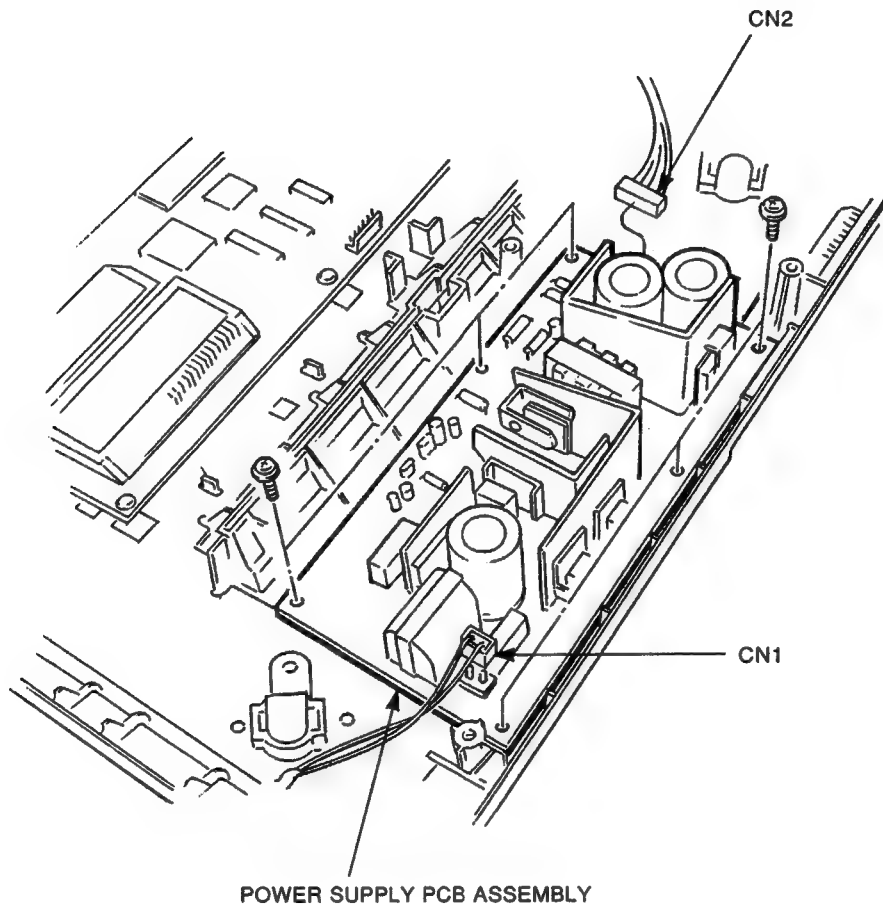

Figure 3-66 Power Supply PCB Assembly
1. Disconnect CN1 and CN2 from the power supply PCB assembly (see Figure 3-66).
2. Lift off the power supply PCB assembly by removing the six mounting screws (see Figure 3-66).